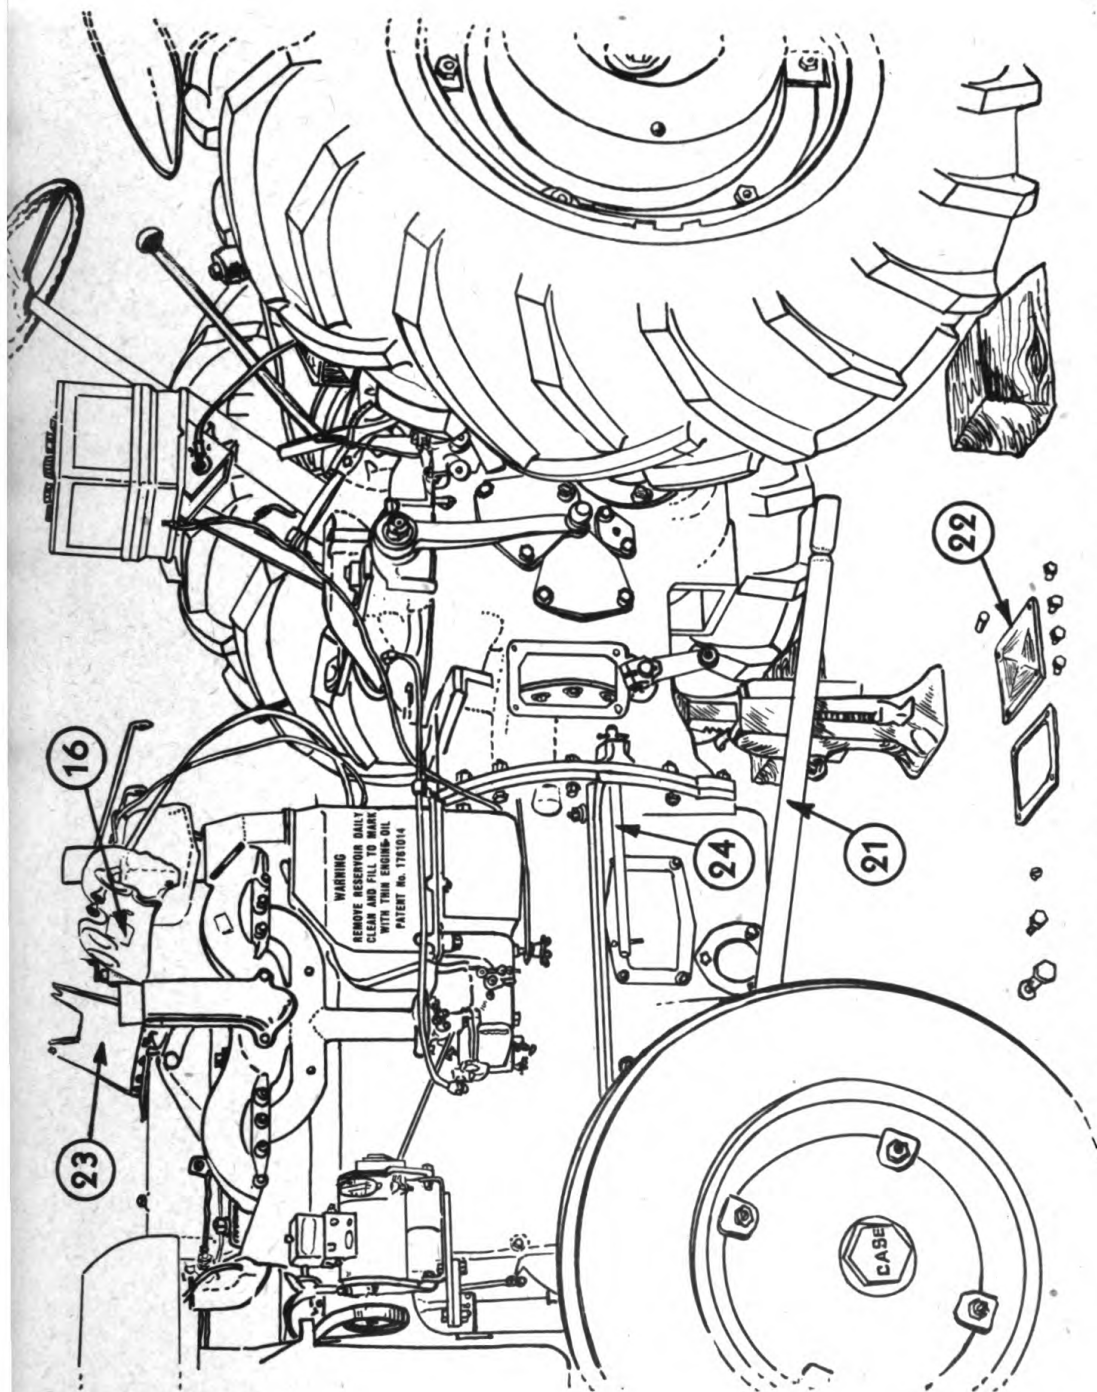

Fig. 27. Left Hand Side View—Preparing a Tractor for Splitting
16. Place instrument panel with remaining wires on top of engine as shown at 16, Fig. 27.
21. Disconnect drag link at rear end as shown at 21, Fig. 27.
23. Remove front fuel tank support, placing it with remaining wires on top of engine as shown at 23, Fig. 27.